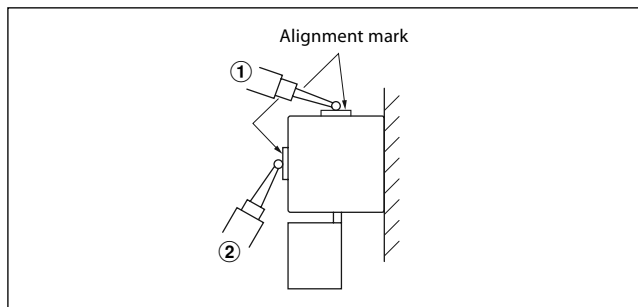

Fig. 3-7 Parallelness check of scale and machine table movement
(4) Measuring parallelism of scale with machine table movement
Place a dial gauge directly where the alignment mark (Fig. 3-7 ① in the figure below) is positioned on the side of the scale, and check that the scale is surely mounted parallel to the machine table movement.
(5) When the specified parallelism for the scale mounting bracket is not obtained
Insert spacers below the feet and make adjustment by placing a dial gauge at ② in Fig. 3-7 to adjust the parallelism to within 0.15 mm (0.006") throughout the length between may be obtained at the alignment marks.